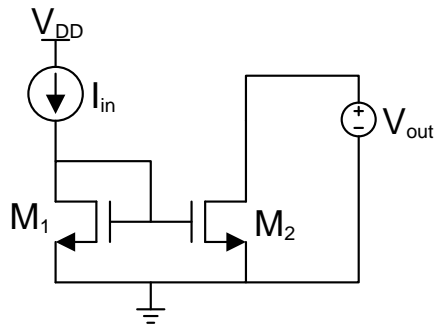
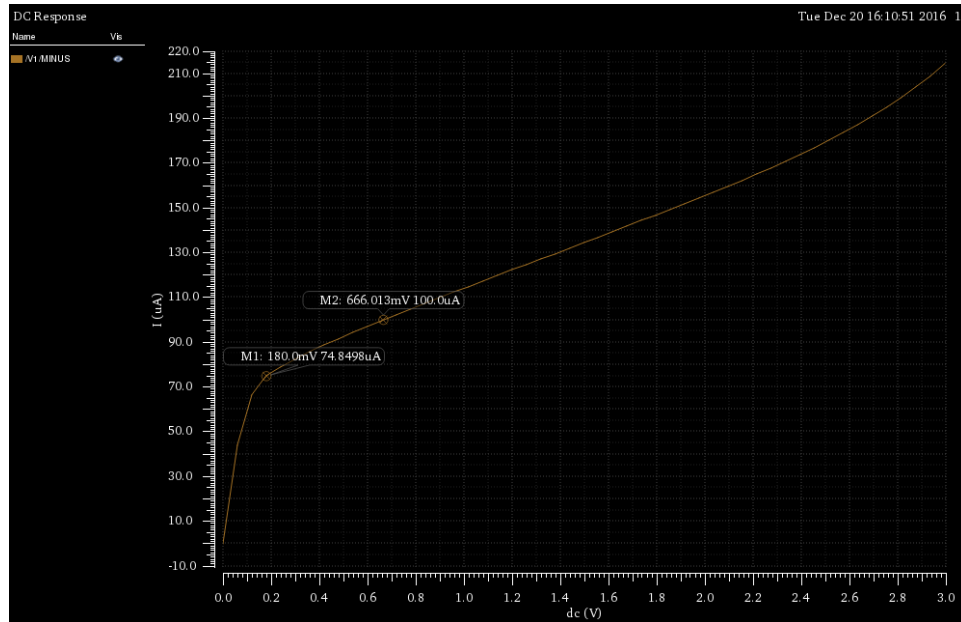
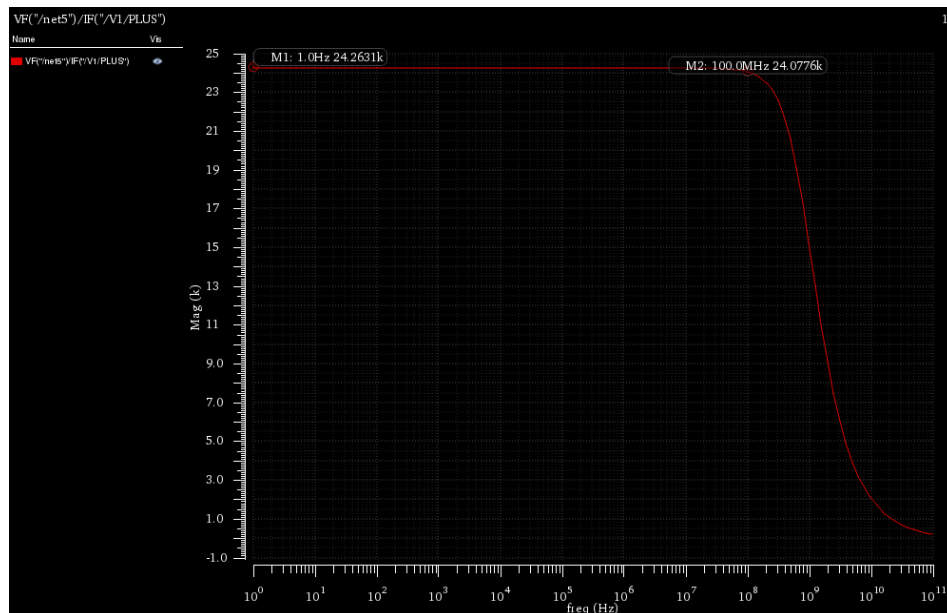

Figure 5-4: Current Mirror Test Configuration
Figure 5-5: Current Mirror Simulation Results for Compliance Voltage
Figure 5-6: Plot of Current Mirror Output Impedance
Once a current mirror has been designed using hand calculations, use the test configuration in Figure 5-4, where I_{in} is the reference DC current and V_{out} is a DC voltage source that will be varied in a DC sweep simulation. After running the simulation, I_{D2} can be plotted by choosing *Results*→*Direct Plot*→*DC*, then clicking on the (-) terminal of the voltage source V_{out} . The resulting I_{D2} versus V_{out} plot should resemble Figure 5-5. The compliance voltage will be the point on the plots where I_{out} begins to change rapidly, indicating that the output transistor is entering the linear region of operation.
To plot the output impedance, go to *Tools*→*Calculator*. First, click on “vf” on the Calculator and then the output node (wire) on the schematic. Second, click on “if” on the Calculator and then the (-) terminal of the voltage source V_{out} on the schematic. Finally, click on “/” on the calculator, and then *Tools*→*Plot*. The output impedance plot should resemble Figure 5-6. In this example the output impedance is about 24 k Ω at low frequencies and then begins to decrease around 100 MHz.
- b) Generate the plots of Figure 5-5 and Figure 5-6 for this design. Determine the compliance voltage, low frequency output impedance, and comment on accuracy.
- b) Generate the plots of Figure 5-5 and Figure 5-6 for this design. Determine the compliance voltage, low frequency output impedance and comment on the accuracy.